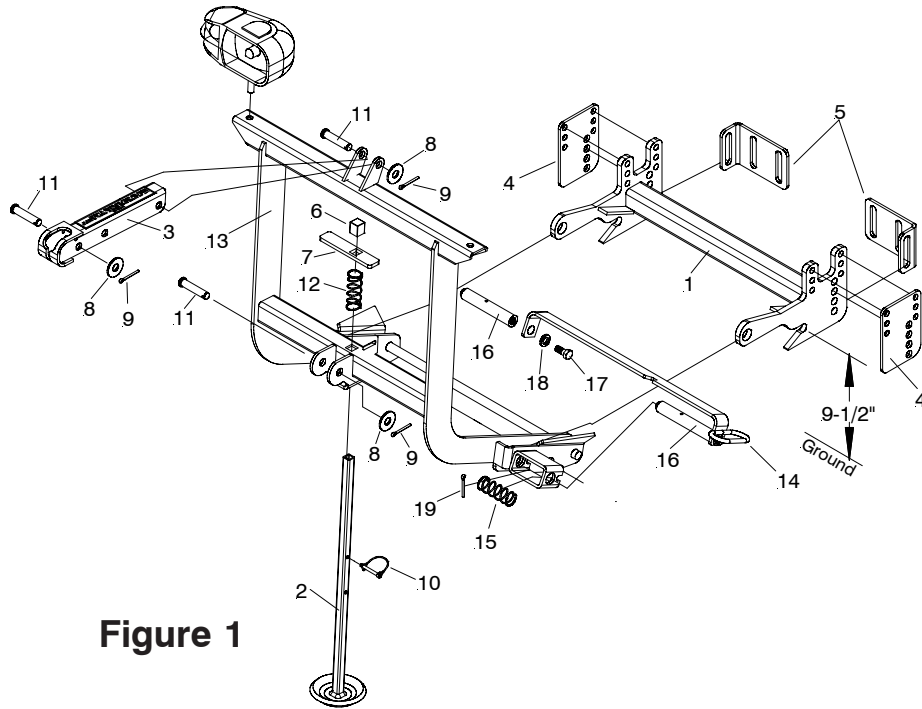

Figure 1
A. Assemble Clevis Frame (1) to vehicle per separate Mounting Carton Instructions. Use the holes on the Clevis Frame (1) that will put the rear slot closest to 9-1/2" from the ground as shown. Spacer (4) and Bracket (5) will be needed as shown.
B. Note: Handle Pin has been pre-assembled to the Lift Frame. Assemble Pin (16) to Handle Pin (14) using 3/8-16 x 1-1/4" Bolt (17) and 3/8" Poly washer (18). Only tighten until head of bolt begins to touch poly washer. Assemble to Lift Frame (13) by inserting the Pin (16) through the Lift Frame plates, through the center of the spring (15). Compress the spring (15) slightly with your fingers and insert the 3/16" x 1-1/2" Cotter Pin (19) through the small hole towards the center of the pin. With cotter pin (19) fully inserted, bend the cotter pin in place. Align the notch on the Handle Pin (14) to Lift Frame (13) to lock in place (disengaged). **Note: Lubricate the stainless steel pins and Lift Frame bearing surfaces with chassis grease or anti-seize lubricant periodically for easier disengagement of pins.**
C. Slide Jack Stand (2) thru bottom of Lift frame (13), Spring (12) and Jack Lever (7). **Be sure short side of Jack Lever (7) is oriented into the slot of the Lift Frame.** **Note: Wire Lynch Pin (10) is used to Lock the Jack Stand (2) in the raised position once the plow is attached to the vehicle.**
D. Attach Lift Frame (13) to Clevis Frame (1) (Ref. Figure 1). Twist the Handle Pin so that the two Pins (16) engage. The spring loaded pin should snap into place locking the lift frame to the clevis frame.
E. Attach Lift Arm (3) to Lift Frame (11), Mount Hydraulic unit to lift frame (17) and to lift arm (3) using Pivot Pin (11), 5/8" Washer (8) and 1/8 x 1-1/4" Cotter Pin (9).
H. Attach the Lift Chain to the Lift Arm (3) through the hook on the lift arm. Adjust the lift chain at the lift arm so that there are 2-3 links of slack. This ensures that the plow blade will lift fully and be able to follow the ground contour while plowing.